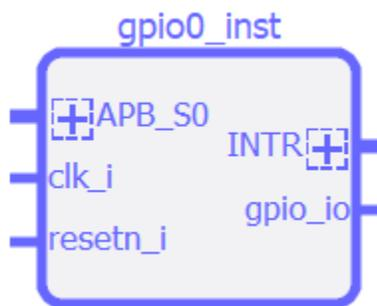

Figure 2.45. Highlight an Object
- To highlight an object: select an object and click **Highlight** , or, right-click the object and choose **Highlight** . The object is highlighted in blue (Figure 2.45). Click **Highlight**  again. You can remove highlighting.